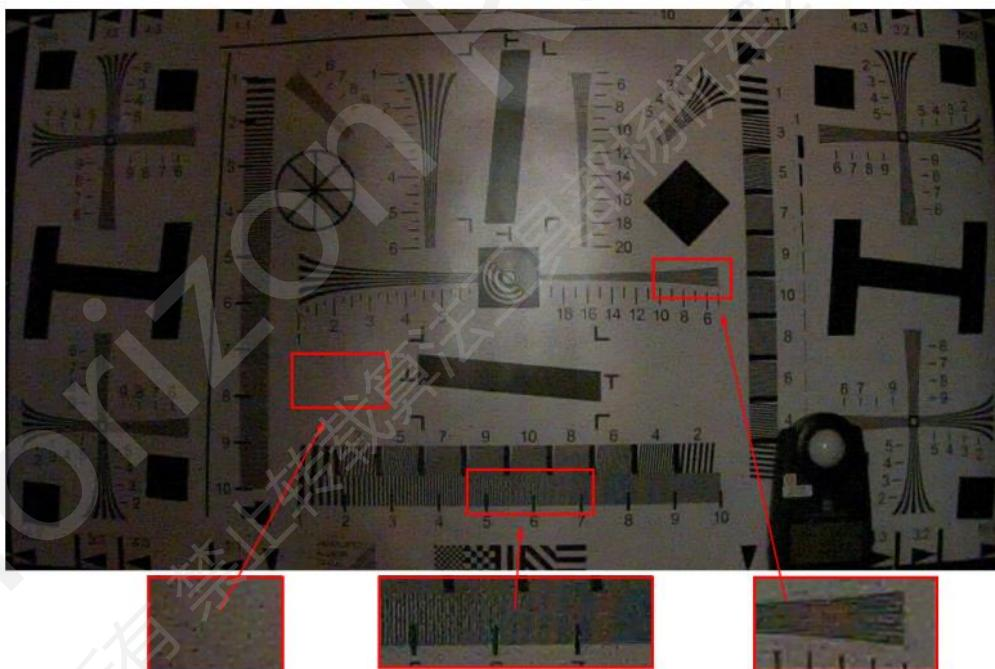

Figure 3.15-14 Image at maximum gain and NP\_offset = 0.
2. Observe the following in Figure 3.15-14: